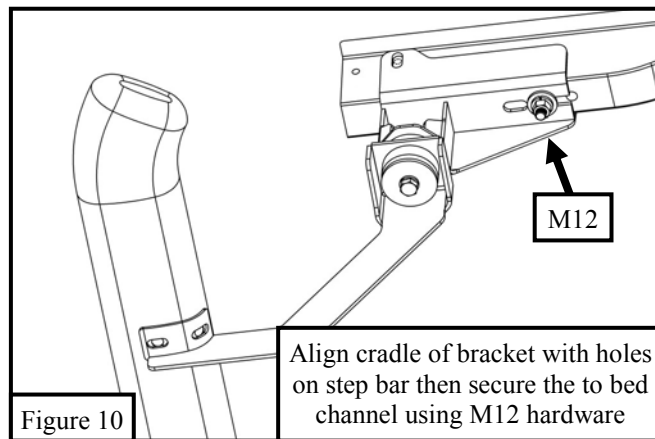

Figure 10
- Align the assembly of the bed mount top bracket, bed mount bottom bracket and the isolator kit to the bed channel and adjust the assembly, by moving it along the bed channel, until two holes in the cradle are aligned with the two holes of the step bar assembly. Then secure assembly to previous installed M12 bolt plate using the provided M12 hardware. **See Figure 10.**